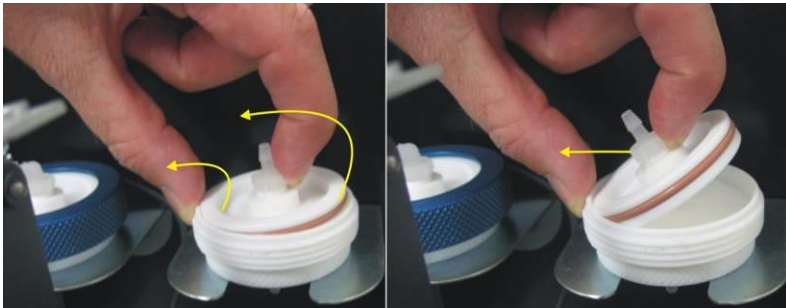

Figure 54 – Removing Plunger
4. Remove the filter plunger from the casing, place finger on tubing connector and pull to the side (refer to Figure 54).